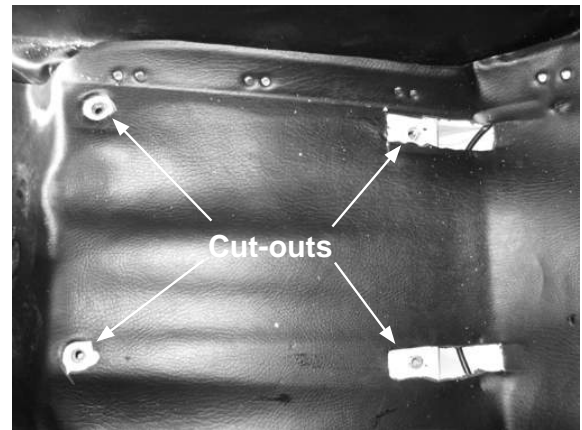

Figure 16-1
1. Prepare each of the mounting holes as set forth below in items 2-7 (see Figure 16-1).